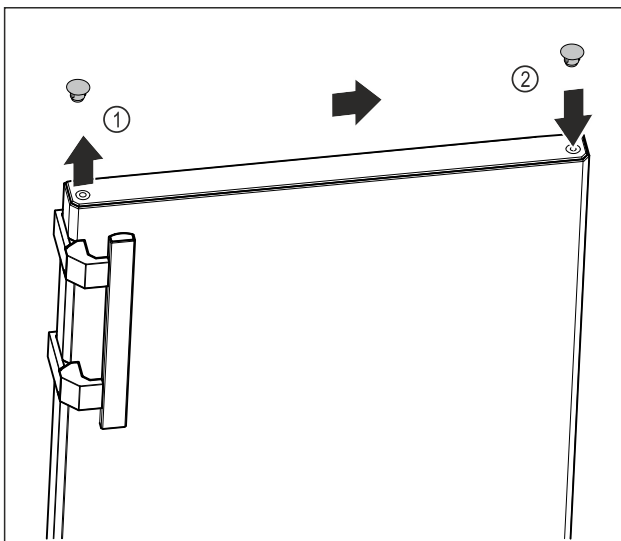

Fig. 17
- ▶ Carefully lift the cover plug on the top of the door Fig. 17 (1) with a slotted screwdriver.
- ▶ Insert the cover plug on the opposite side. Fig. 17 (2)